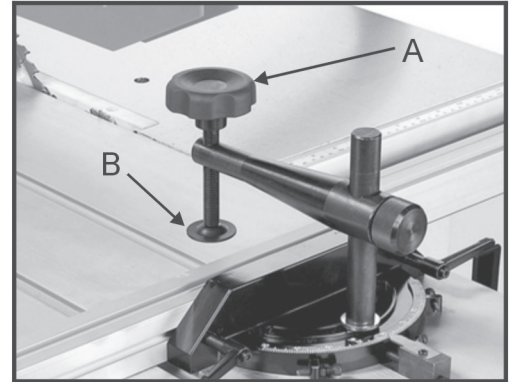

Fig. 3
(3) Miter Fence
- A. Fine adjustment handle. (Fig. 3)